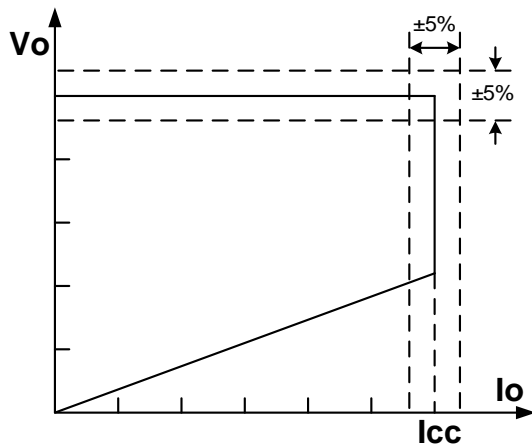

Figure 4. Typical CC/CV Curve
The PT2312E is a high performance AC/DC power controller for charger and adaptor applications. Due to the PSR control, the PT2312E can provide accurate constant voltage (CV) and constant current (CC) regulation without opto-coupler and TL431, as shown in Figure 4.